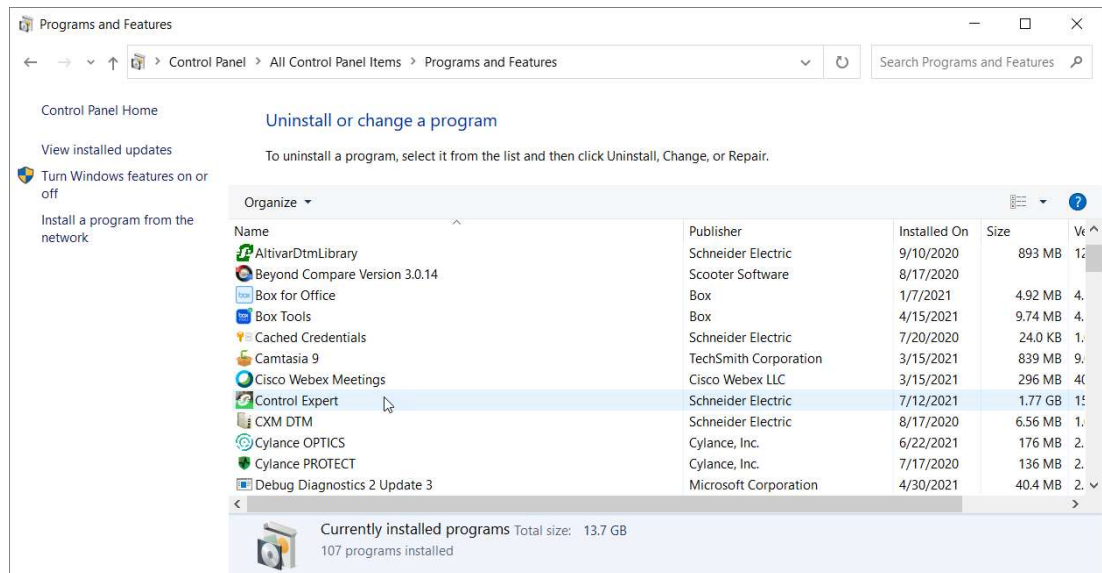

Figure 2.
- Scroll down the list and locate 'Control Expert' (See Figure 2).